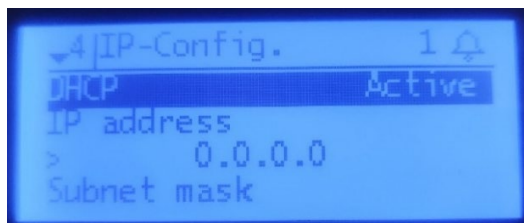

Figure no. 19
8. Select **IP Config** and check if **DHCP** status is set as **active**. (see figure no. 19)